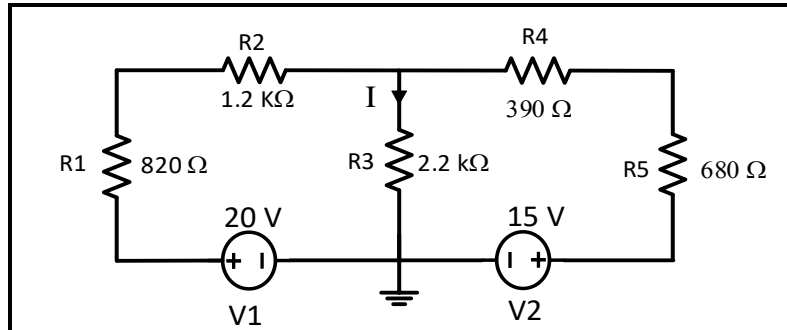

Figure 4.2
1. Use PSPICE to determine the voltages at all nodes and the current in all the branches for the circuits in **Figures 4.2 to 4.4**.
1. Connect the circuit of Figure 4.2 and set the power supply voltages as indicated.